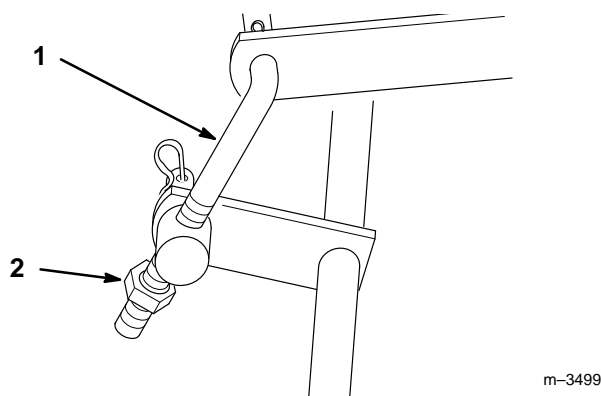

Figure 9
5. To adjust front-to rear blade slope turn locknut on rear adjustable link (Fig. 9).